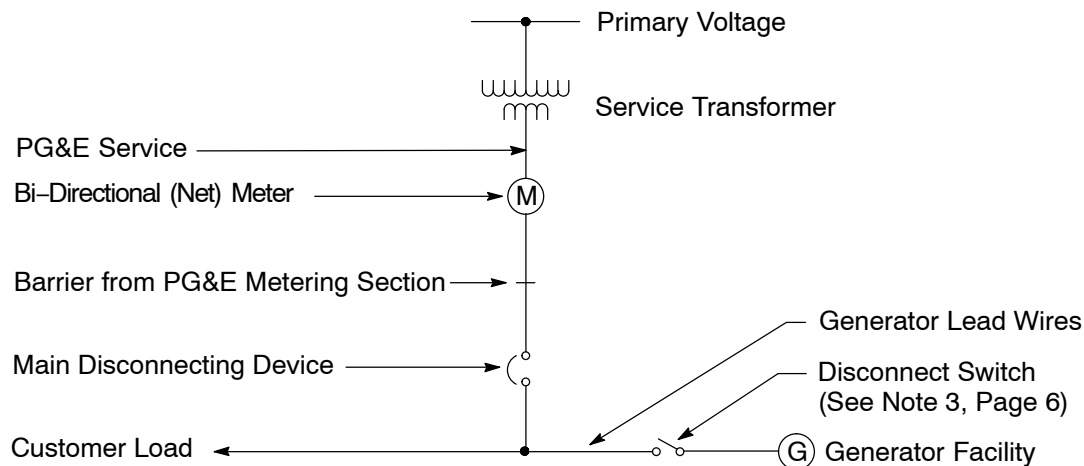
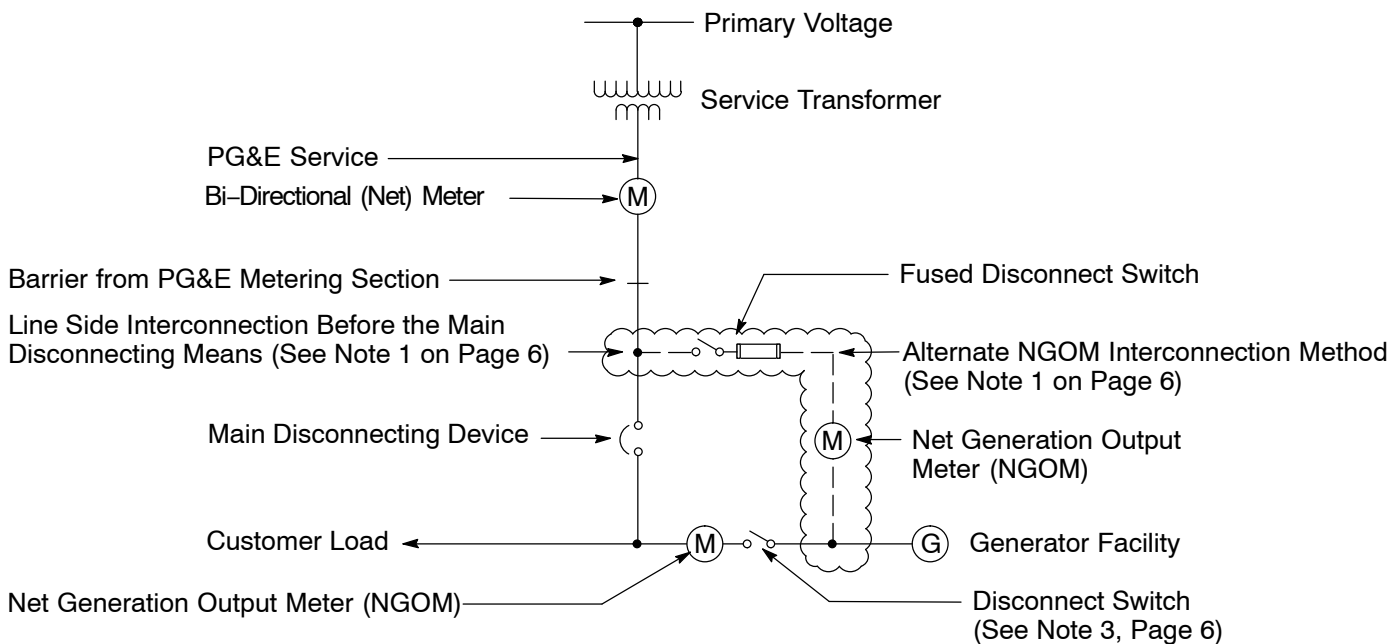

Figure 2
Figure 3
Notes for Figure 2 and Figure 3:
1. An interconnection placed before the main disconnecting device requires approval. Submit a variance request to the PG&E's Electric Generation Interconnection (EGI) Department. If a line (Supply) side interconnection is approved, install a fused disconnect switch before the NGOM, as shown in Figure 3. Note, customer cables and equipment are **not** allowed in any PG&E-sealed section.